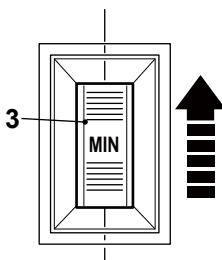

Fig. 8
- > Turn the speed dial (3) forward (as seen from the operators position) to increase the maximum rotational speed (Fig. 8). Use high rotational speed to perform high gloss polishing. Exercise caution when use the product at a high rotational speed, for too much heat may be generated which could do irreparable harm to the polished surface.